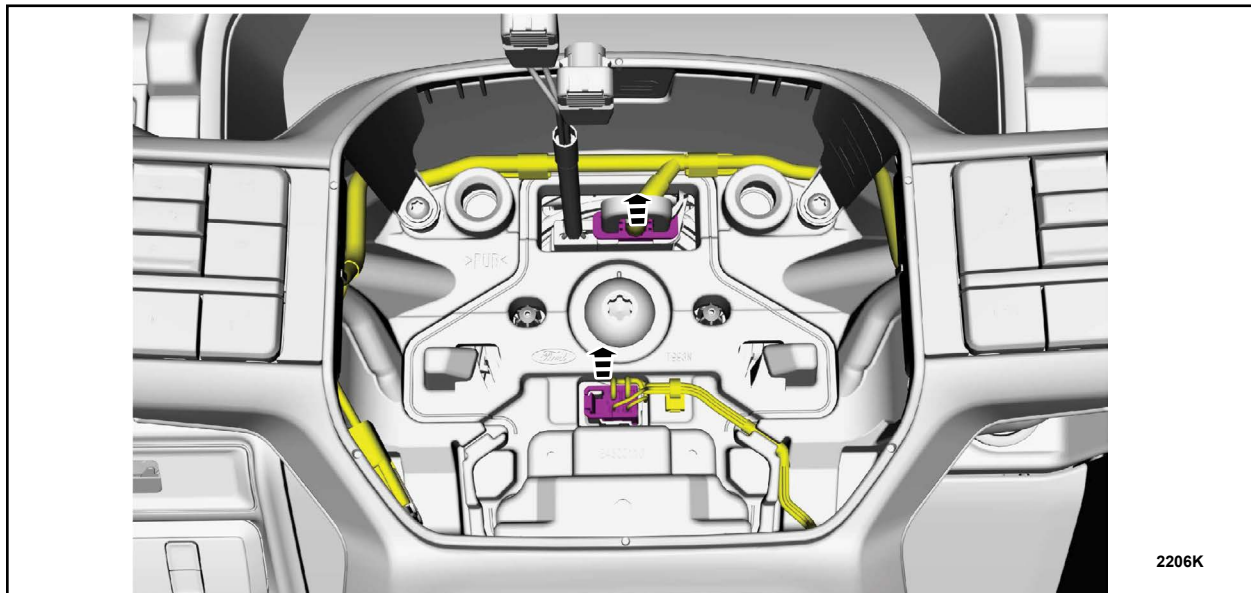

FIGURE 11
4. Disconnect the steering wheel electrical connector(s). See Figure 11.